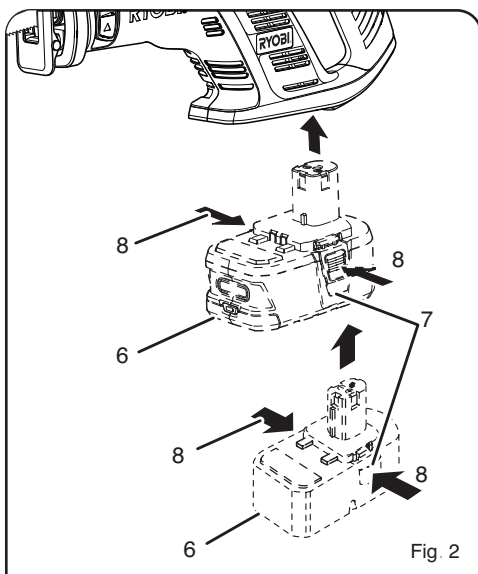

Fig. 2
TO REMOVE / ATTACH BATTERY PACK (NOT INCLUDED) (Fig. 2)
- Place the battery pack in your saw aligning raised rib on battery pack with groove in saw's battery port (Fig. 2).
- Remove battery pack (Fig. 2).